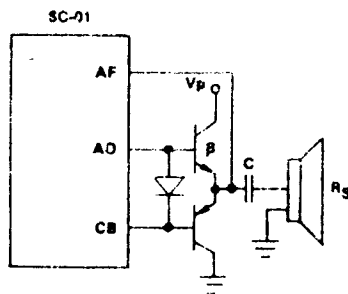

Figure 12. Class B Amplifier *
Class B Amplifier: See Figure 12. A current source (CB) is required for this push-pull amplifier.